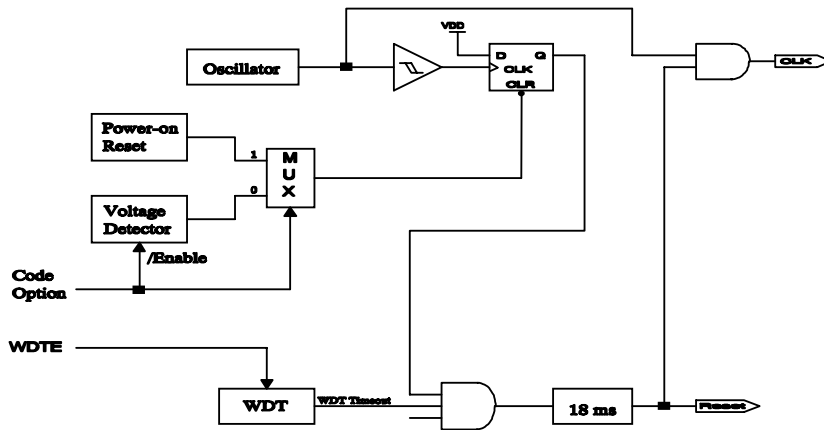

Fig. 12 Block diagram of Reset of controller
- (1) Power on reset, or Voltage detector
- (2) WDT timeout. **(if enabled and in GREEN or NORMAL mode)**
Note that only Power on reset, or only Voltage detector in Case(1) is enabled in the system by CODE Option bit. If Voltage detector is disabled, Power on reset is selected in Case (1). Refer to Fig. 12.